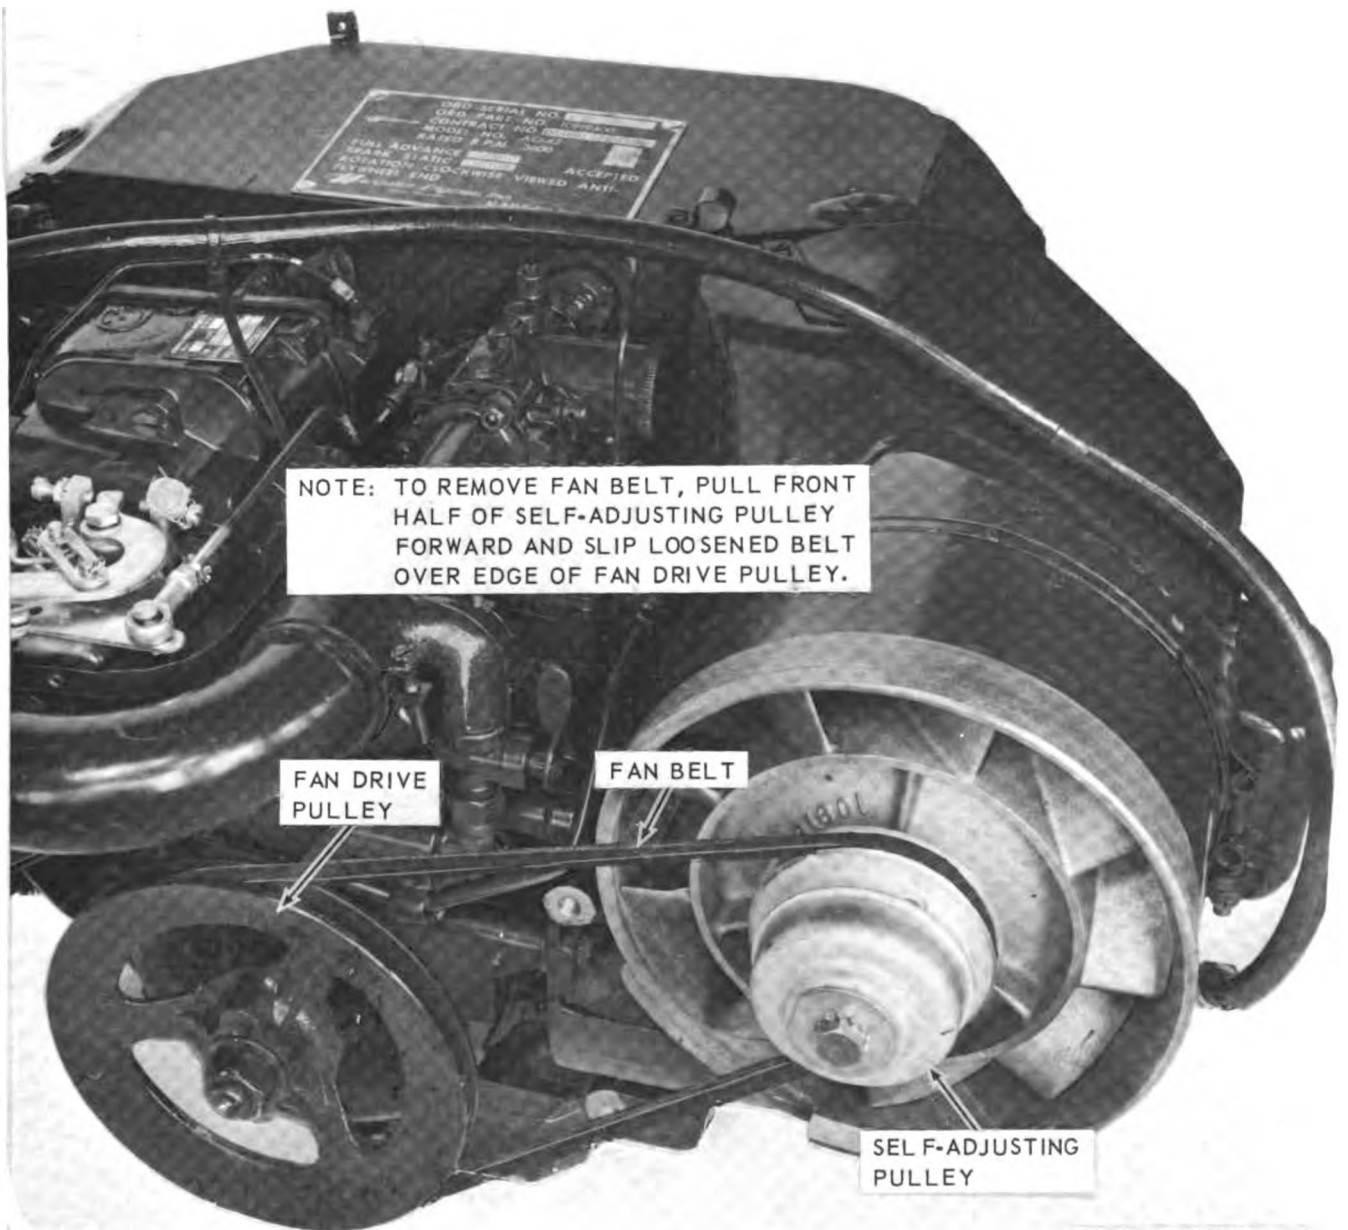

Figure 3-28. Fan belt, removal and installation.
- (1) Remove the fan belt guard and fan guard (para 3-33).
- (2) Refer to figure 3-28 and remove the fan belt.
- (1) Refer to figure 3-28 and install the fan belt.
- (2) Install the fan belt guard and fan guard (para 3-33).